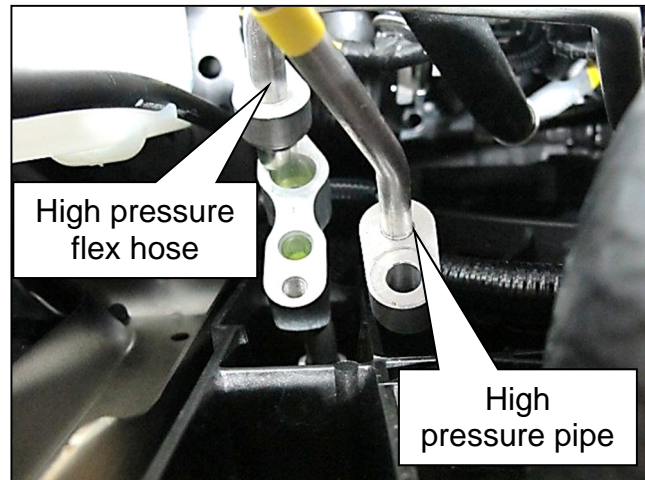

Figure 6
7. Disconnect the high pressure pipe and the high pressure flex-hose connections (Figure 6).